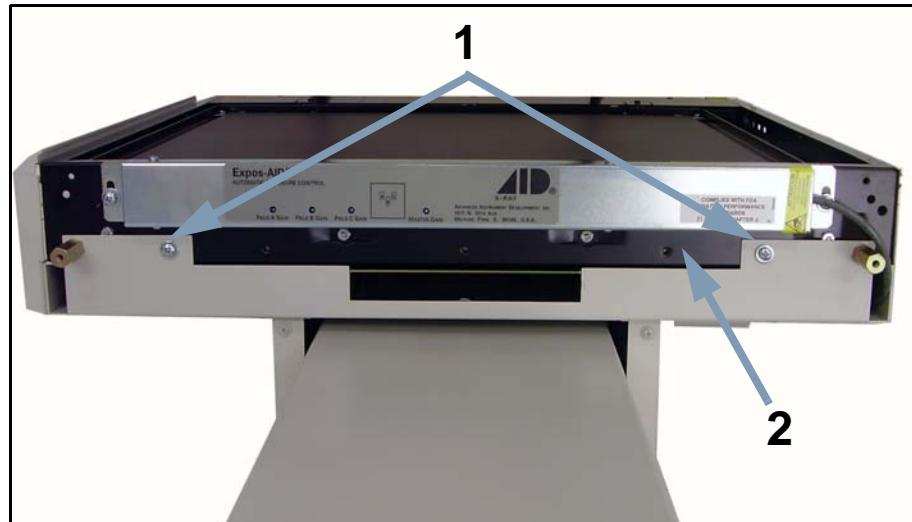

Figure 5-14. Bucky Top Screws
- 20** Unscrew bucky top screws (1 in Figure 5-14) and remove bucky (2).